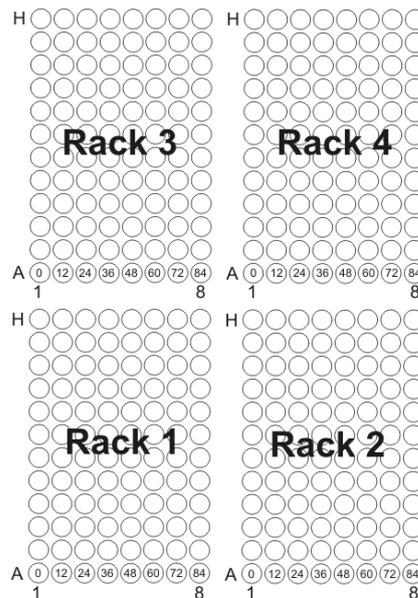

Fig. 18: Rack layout scheme (here: four 96 well plates)
- Unused rack positions (= **NotUsed**) must always be the last positions. For example, it is not allowed to set **NotUsed** for **Rack1** and then select a rack type for **Rack2**. Observe the rack layout scheme (example for four 96 well plates see Fig. 18; details for all rack types see page 31).